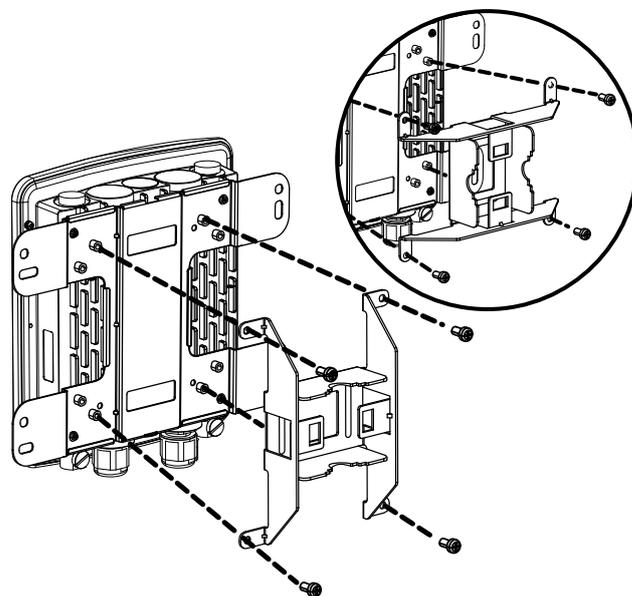

Figure 13: Attaching the pole mount base
- Depending on the orientation of the pole you wish to install the AP onto (horizontal or vertical), attach the pole mounting bracket to the mounting base plate accordingly using the screws. Refer to figure 13 for the proper position of the pole mounting bracket for each direction.